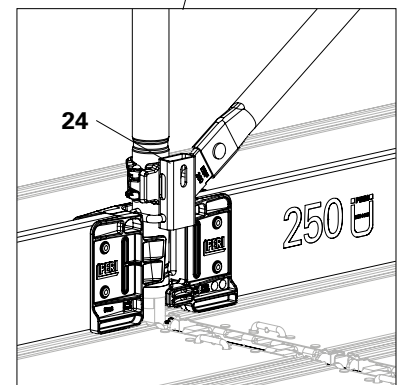

Fig. D6.09b
- Attach the Guardrail Post EVP (50) to the Ledger-to-Ledger Coupler UHA half with spigot.
- Attach Tube EVR 150 (18) to the multi girder.
- Fit Guardrail Posts EPG (51) onto the Guardrail Post EVP (50).
- Fit Toe Board UPF (56).
2. Attach End Guardrail EPF (54) to first and last scaffold bays.
3. Assemble Easy Frame EVF (16) to all frame columns.
5. Brace every frame column with scaffold tubes (75), swivel couplings (49) (49.1) and wall ties (46).
6. Fit a brace onto Guardrail Post EVP using Brace Adapter EBA (24). (Fig. D6.09b)